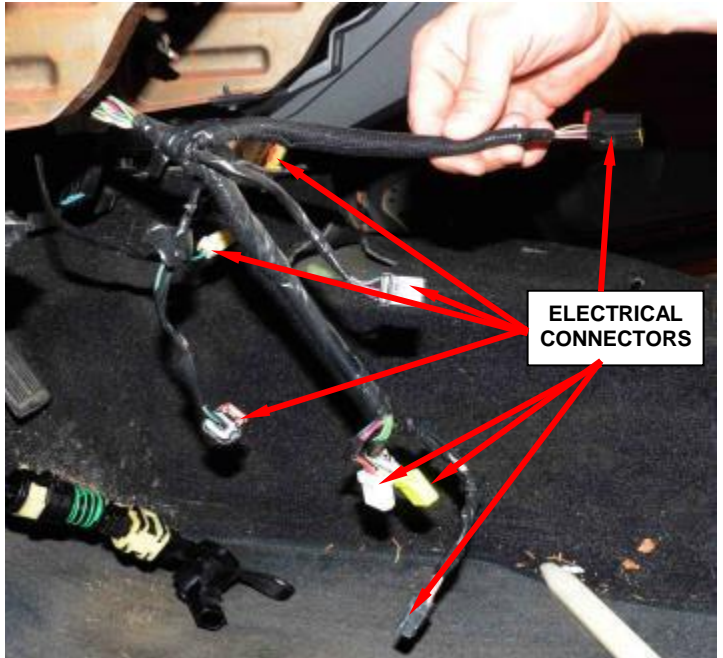

Figure 64 – Column Electrical Connectors
12. Disconnect the wiring harness electrical connectors from the column (Figure 64).